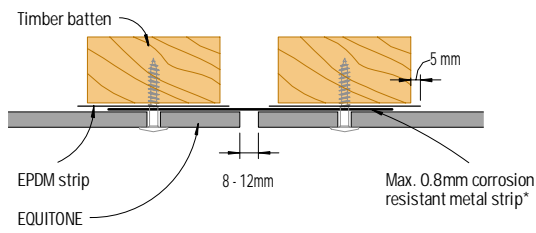

Figure 4: Vertical joint - Detail 2
- 1) In Figure 4 & 5, the metal strip should be fixed ONLY to one of the battens (either left or right) where allowance for horizontal and/or vertical movement of the cladding frame is required.